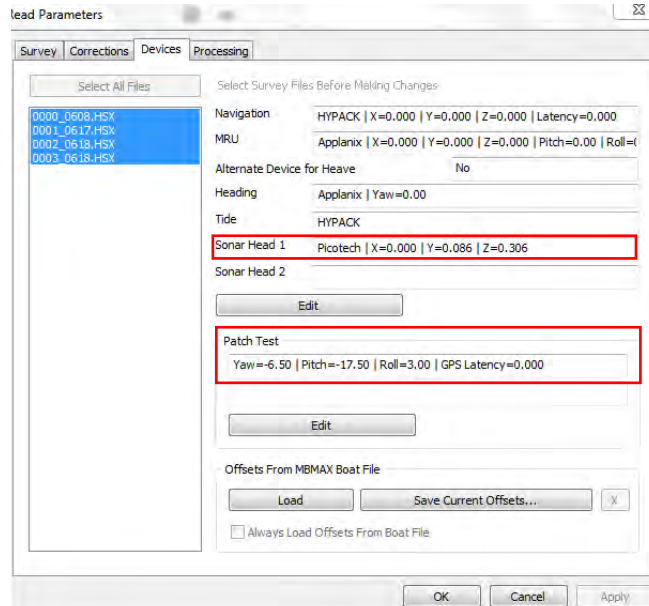

Figure 59: Important parameters on the "Devices" tab
- ⇒ “Devices” tab (Figure 59)
ATTENTION: On the "Read Parameter" window ("Devices" tab), the Patch Test values should be zero (Figure 59)! If not, manually change these settings.